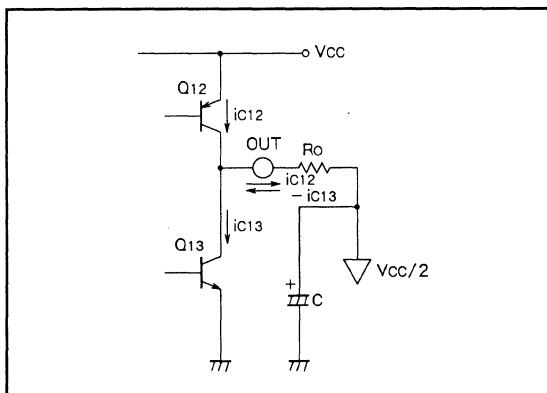

Fig. 4 Equivalent circuit of output stage
The M5222 has a floating-type output stage with the collectors of Q₁₂ and Q₁₃ joined as shown in FIG. 4. Here, the difference of the combined currents will become the output current that will flow through the load. Note that it is necessary to set the DC potential of this output pin by externally-connected resistor R_O and that it is generally DC-connected to the Vcc/2 pin (or to pin (3)).